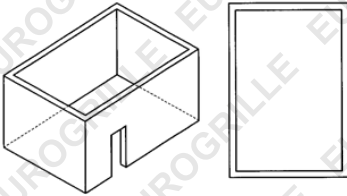

Figure 1: Enclosure with walls on all sides but no overhead cover.
- An enclosure with walls on all sides, but at least one permanent opening at ground level and no overhead cover. See Figure 1.